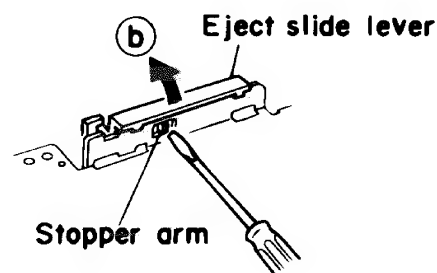

Fig.2-11
#### ■ Eject slide lever (Fig.2-11)
1. Place the cassette mechanism back side frontward and disengage the stopper arm ① of the Eject slide lever by pressing it inwards through the opening of the chassis with a small screwdriver as shown in Fig.2-11.